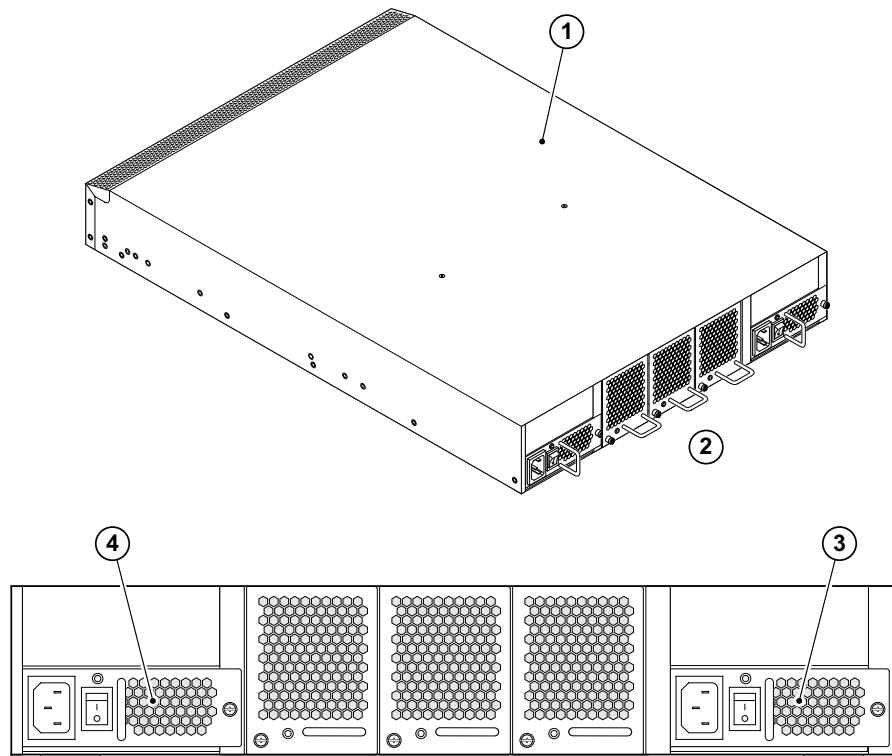

Figure 5-1 DS-4900B power supplies on the nonport side
The DS-4900B switch has two power supplies, as displayed in Figure 5-1. The Fabric OS identifies the power supplies from right to left on the nonport side as Power supply #1 (on the right) and Power supply #2 (on the left).
2. Power off the power supply by pressing the AC power switch to the “0” symbol. See Figure 5-1 for the location of the AC power switch.
9. Optionally, enter the psShow command at the command line prompt to display power supply status (Figure 5-1 on page 5-2 for the location of Power supply #1 and Power supply #2).